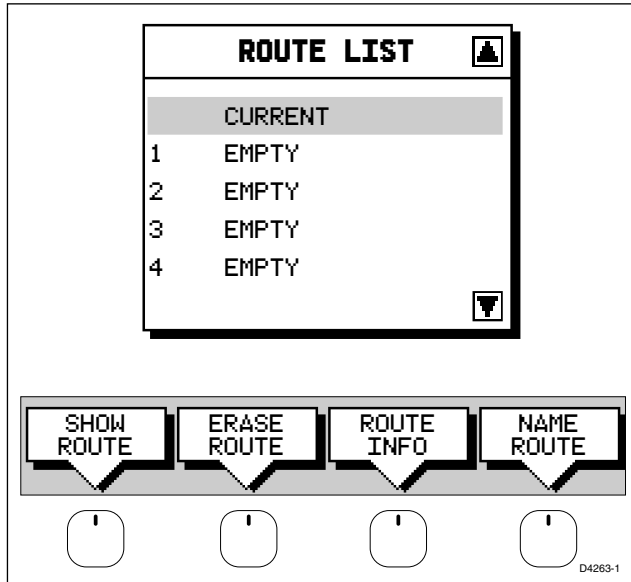

Figure 5-7: Route List Window
1. Press the ROUTE soft key, followed by MORE, then press ROUTE LIST. The route list is displayed as illustrated in *Figure 5-7*. The selection bar indicates the selected route.